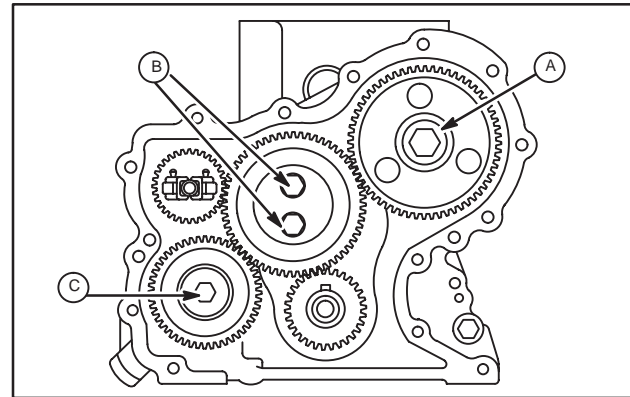

Fig. 17 – Torque Screws
5. Torque screws as shown, Fig. 17.